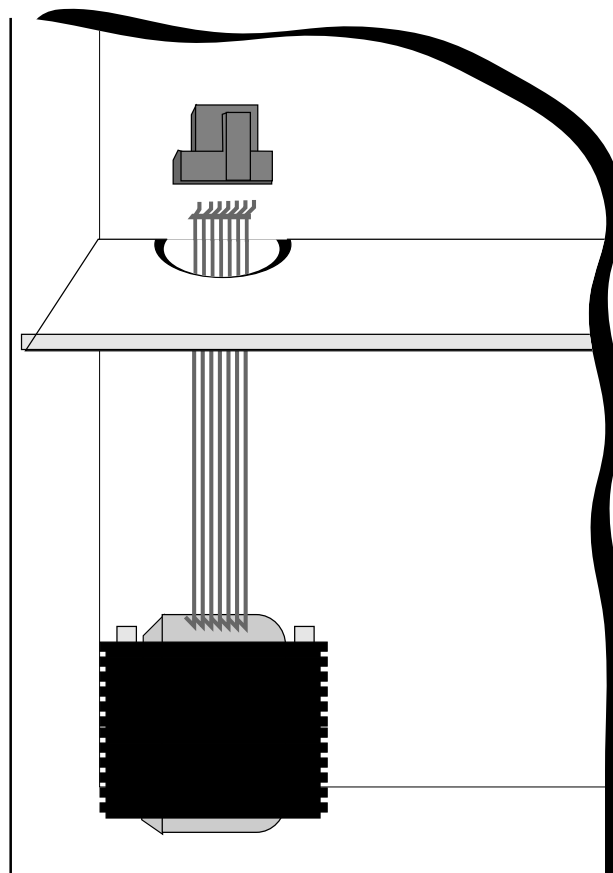

Figure 4: D1601 Installation
3. Place the transformer over the star washers on the four transformer mounting studs. Make sure the transformer cables are routed up as shown in *Figure 4*.
2. Loosely screw the four screws provided with each shelf into the four shelf mounting holes. See *Figure 4* for locations.